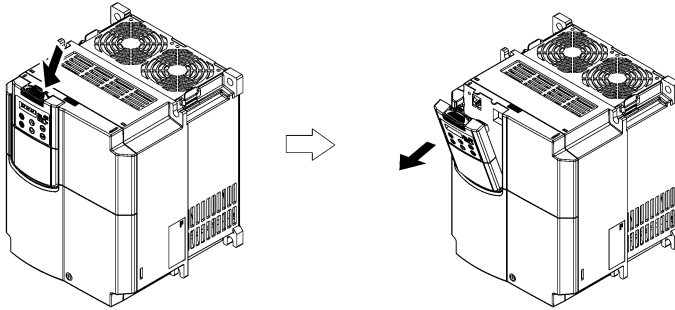
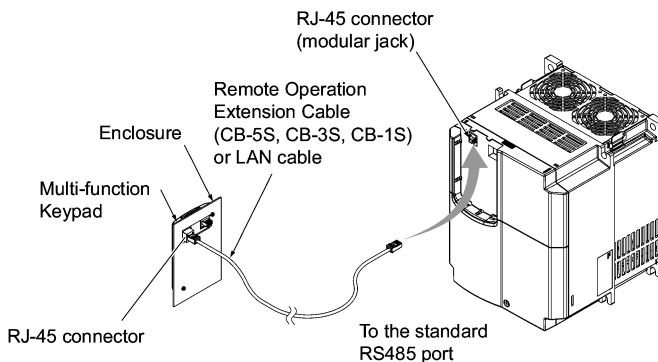

Figure 2.4 Removing the Standard Keypad
Figure 2.9 Connecting Multi-function Keypad to the Inverter with Remote Operation Extension Cable or an off-the-shelf LAN Cable
Pull the standard keypad toward you while holding down the hook (as directed by the arrows in Figure 2.4 below).
- ③ Remove the standard keypad mounted on the inverter (see Figure 2.4) and, using a Remote Operation Extension Cable or a LAN cable, interconnect the Multi-function Keypad and the Inverter (insert one end of the cable into the RS485 port with RJ-45 connector on the Multi-function Keypad and the other end into that on the inverter) (See Figure 2.9.).